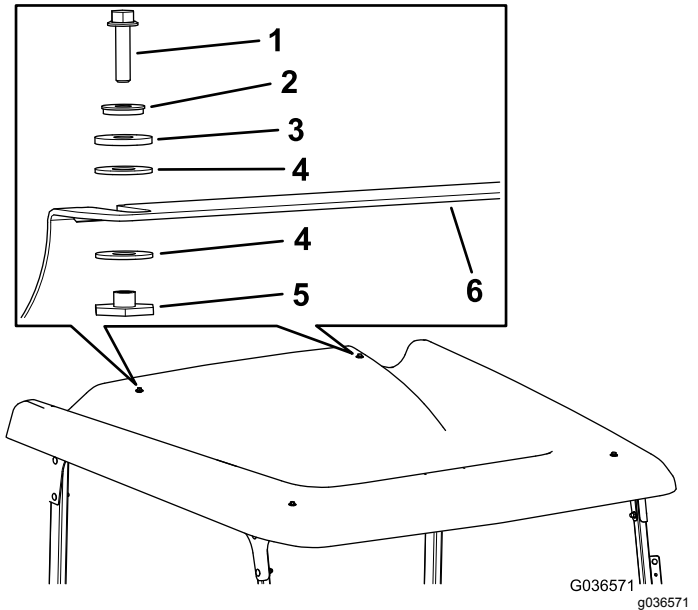

Figure 13
14. Install the sunshade to the rear crosslink using 2 hex-flange bolts (1/4 x 1 inch), 2 sealing washers, 2 friction washers, 4 plastic washers, and 2 flange bushings (Figure 13).